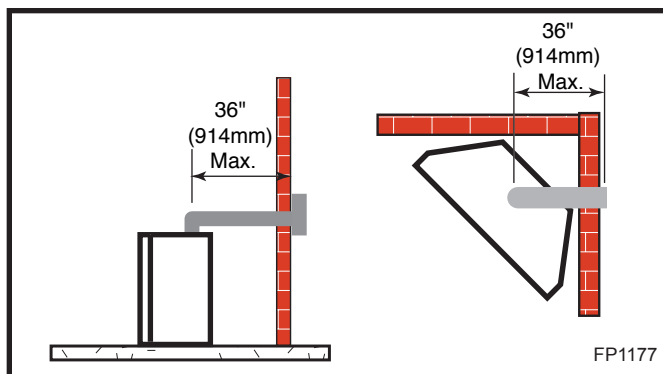

Fig. 27 Maximum horizontal run with no rise.
- If a 90° elbow is fitted directly on top of the fireplace flange the maximum horizontal vent run before the termination or a vertical rise is 36" (914mm). (Fig. 27)